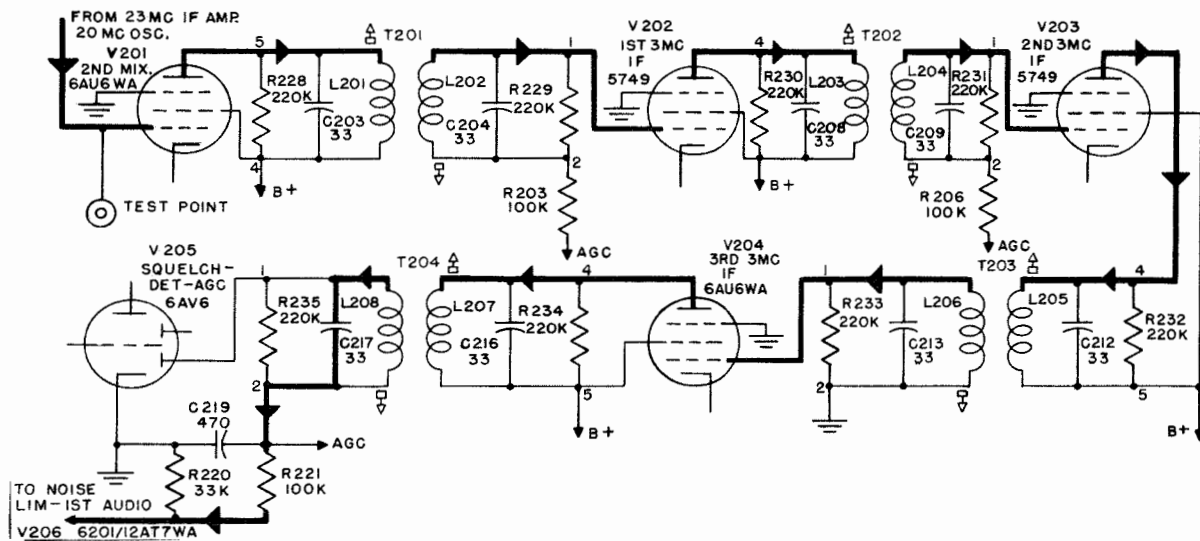
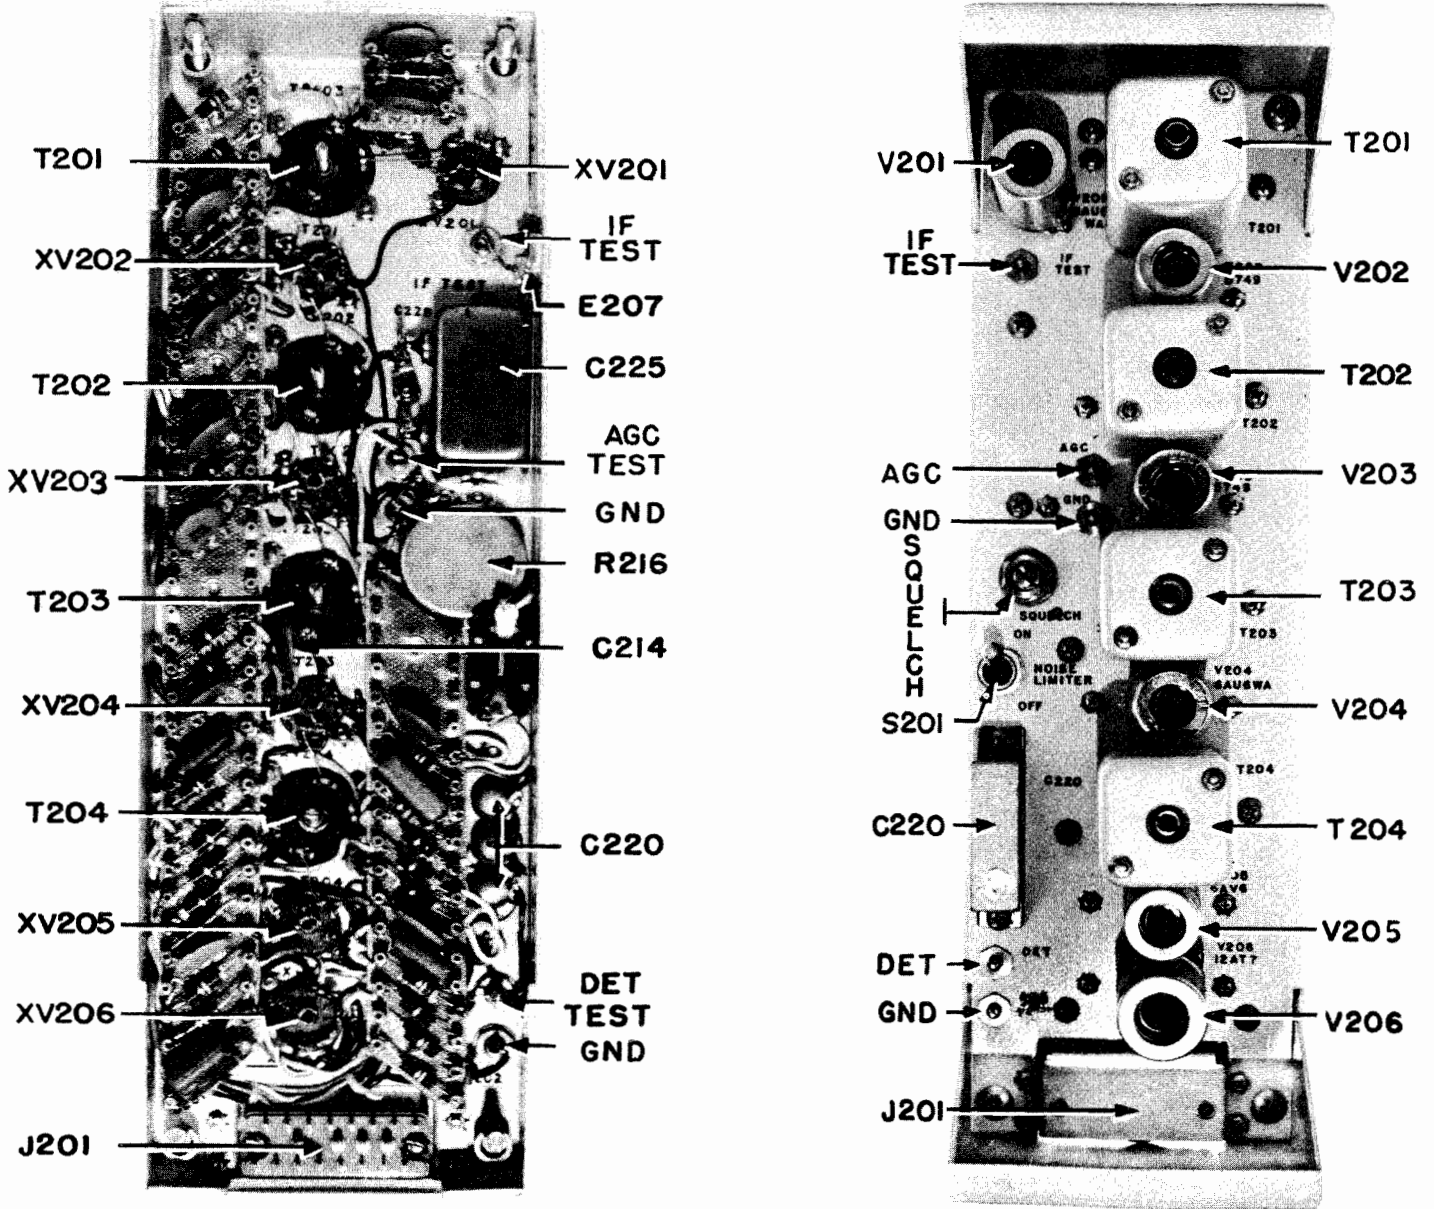

Figure 2-6. Simplified Schematic, 2nd Mixer and 2nd IF Amplifier
Figure 2-7. IF Chassis, Bottom and Top Views
(1) SECOND MIXER-3MC IF AMPLIFIER.—As shown in figure 2-6, a type 6AU6WA tube, V201, is used as the second mixer. The 23 Mc first IF and the 20 Mc oscillator signals are present in the grid circuit and combine in this tube to produce the 3 Mc second IF frequency, which is present in the plate circuit. A test point is provided on the top of the chassis, see figure 2-7, to permit injection of a 3 Mc signal on the control grid of this tube, for 3 Mc IF alignment. The plate circuit is tuned to resonance at 3 Mc by padder capacitor C203 and L201 of T201. L201 is coupled by mutual inductive coupling to L202, which with C204 also tunes to 3 Mc and applies the signal to the grid of the 1st 3 Mc amplifier 5749 (V202). AGC voltage is applied to this grid through isolation resistor R203. V202 amplifies the 3 Mc signal, present in the plate circuit consisting of C208, and L203 of T202 and it is coupled to the second 3 Mc amplifier 5749 (V203) grid circuit L204 and C209. AGC voltage is applied to V203 through isolation resistor R206. Again the signal is amplified by V203, and the plate circuit is resonated to 3 Mc by L205 and C212, and is coupled to L206 and C213 of T203 in the grid circuit of the last 3 Mc IF amplifier 6AU6WA (V204). AGC voltage is not applied to the last IF amplifier, since it must operate at high level linear conditions. The plate circuit of V204 is resonated to 3 Mc by C216 and L207 of T204 which is coupled to L208 and C217 of the detector 6AV6 (V205). All of the 3 Mc IF transformers are tuned to resonance by powdered iron slugs. The primaries are tuned from the top of the shielded can and the secondaries from the bottom by an insulated screwdriver. Each of the windings of the transformers are loaded with a 220,000 ohm resistors, namely, R228, R229, R230, R231, R232, R233, R234, and R235, to broaden the bandpass of the IF amplifier to the desired degree. Signal from the last tuned circuit L208 and C217 is applied on one of the diode plates of V205, causing the diode to rectify the signal and produce AGC voltage across IF by-pass capacitor C219 and audio voltage across the audio voltage divider consisting of R221 and R220.